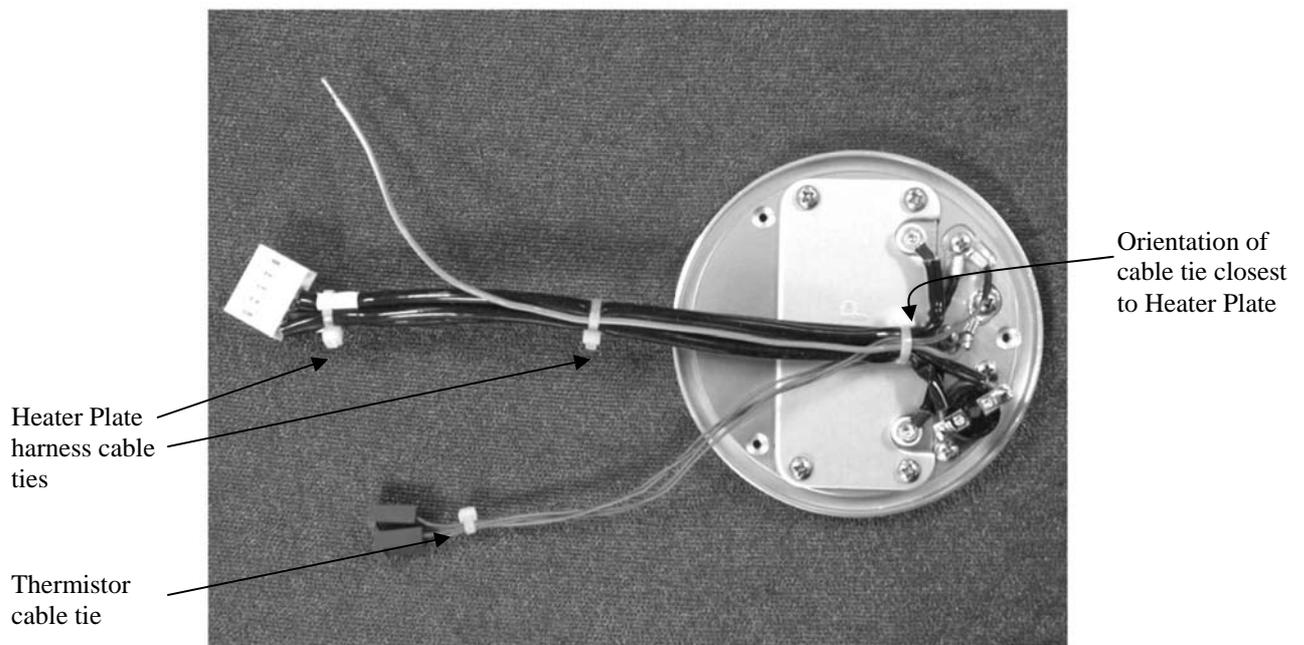

Figure 6.7: Location of cable ties securing heater plate harness
3. Cut the two cable ties securing the thermistors (refer to Figure 6.7).
6. Clip one small cable tie (2.5 mm wide) around the heater plate harnesses near the heater plate, securing all wires as they protrude through the top case. Place a second cable tie near the thermistor connectors to secure the thermistor wires as they enter the connector (refer to Figure 6.7 for cable tie location).
9. Clip three small cable ties (2.5 mm wide) around the heater plate harnesses. Place one close to the heater plate, securing all wires as they protrude through the top case. Place another halfway up the wires securing the heater plate harness and protective earth wire (leave the thermistor wires free for flexibility in connecting to the PCB). The last tie secures the heater plate harness wires near the Molex plug (this tie may not need to be cut to replace the cut out). Refer to Figure 6.7 for cable tie locations.
9. Clip three small cable ties (2.5 mm wide) around the heater plate harnesses. Place one close to the heater plate, securing all wires as they protrude through the top case. Place the second tie halfway up the wires securing the heater plate harness and protective earth wire (leave the thermistor wires free for flexibility in connecting to the PCB). The last tie secures the heater plate harness wires near the Molex plug. (Refer to Figure 6.7 for cable tie locations).